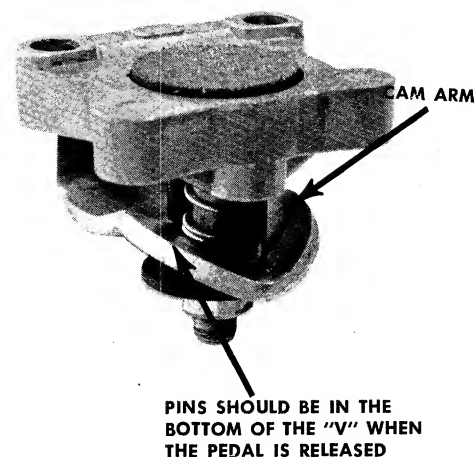

FIGURE 22. PEDAL ADJUSTMENT
Step 1. With the Clutch-Brake Pedal released, the pins on the disc brake should be in the bottom of the "V" on the cam arm as shown in Figure 22.